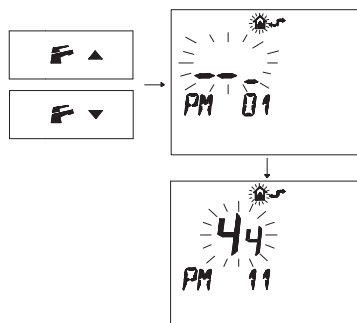

Fig. 8.20
- Press buttons **F** ▼ or **F** ▲ to display the "PM11" program of the pump post-circulation (Fig. 8.20).